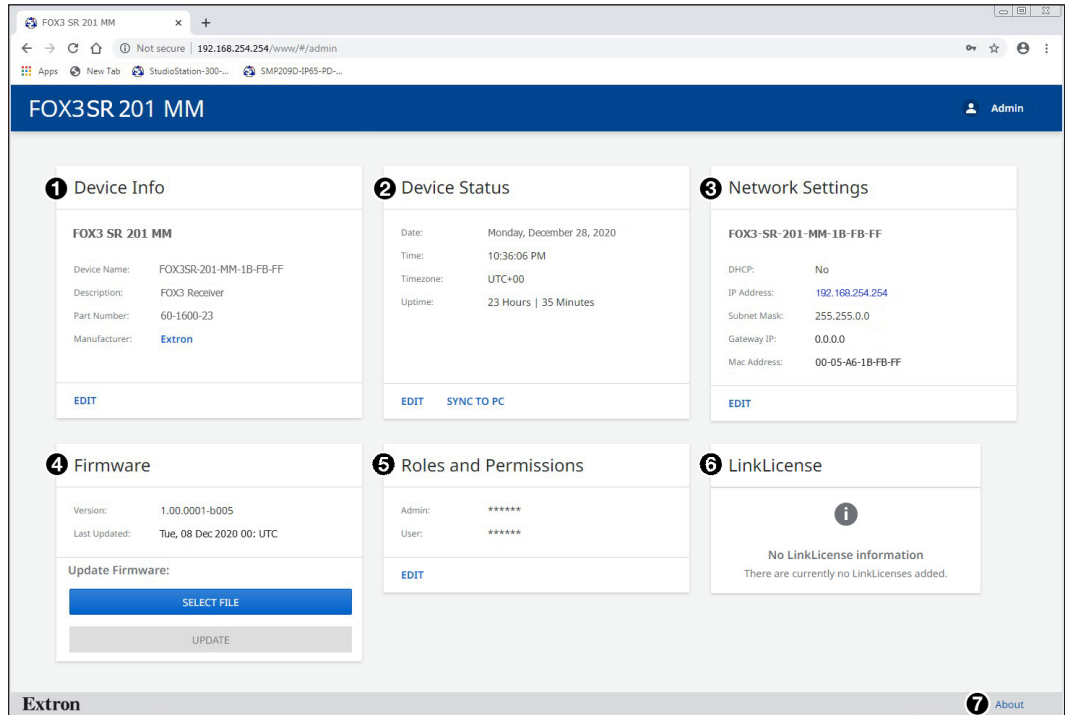

Figure 33. FOX3 SR 201 Internal Web Page
The FOX3 SR 201 internal web page (see figure 33) provides an overall, read-only view of the status of the scaling receiver, with some editable fields for the following categories:
The **Device Info** panel (see figure 33, ①) displays the device name, a brief product description, and the part number. The panel also contains an **Extron** link, which opens the **Extron website** in a new window.
The **Device Status** panel (see figure 33, ❷ on page 41) displays the current date, time, time zone, the amount of time the device has been running (**Uptime**), and the internal temperature in degrees Celsius.
In the **Network Settings** panel (see figure 33, 3 on page 41), set the IP address, subnet mask, and gateway address for your FOX3, and turn DHCP **On** and **Off**.
The **Firmware** panel (see figure 33, 4, on page 41) displays the current firmware version and the date it was last updated. Update the firmware on the FOX3 SR 201 from this panel (see Software/Firmware Installation on page 31 to download the firmware files).
The **Roles and Permissions** panel (see **figure 33**, **5** on page 41) displays whether **Admin** and **User** passwords have been set. It does not display the actual password.
The LinkLicense panel (see figure 33, 6 on page 41) displays information about any LinkLicense applied to the FOX3 device (A LinkLicense can be uploaded using the Extron Toolbelt software. See Software/Firmware Installation on page 31 to download the software).
Click on the **ABOUT** link (see figure 33, 7 on page 41) to open the **About** dialog box to view general information about the FOX3 SR 201, such as the firmware version, copyright, part number, licenses, patents and web page version. Click on the **View the End User License Agreement** link to view the user license.